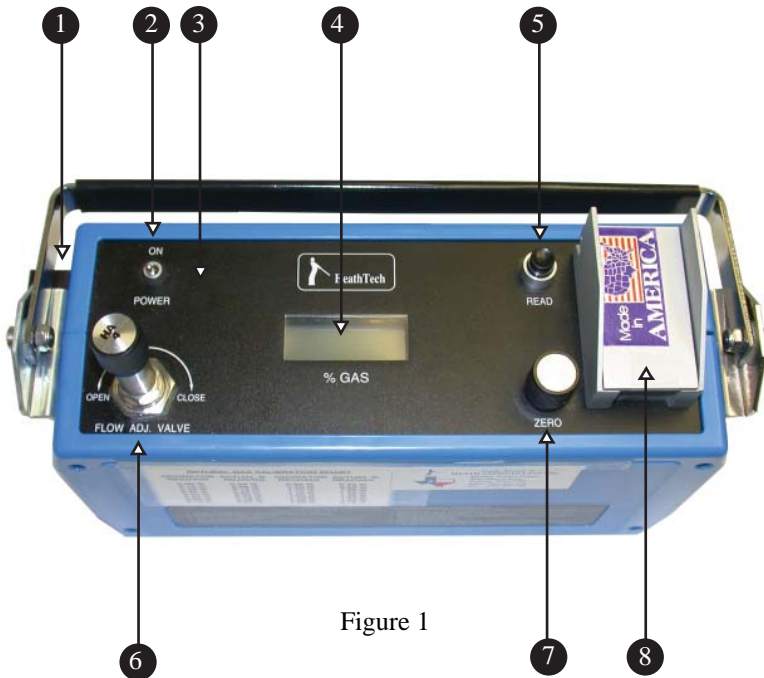

Figure 1
**\*\*NOTE\*\*** See Figure 1 on page 4 for reference to the following steps.